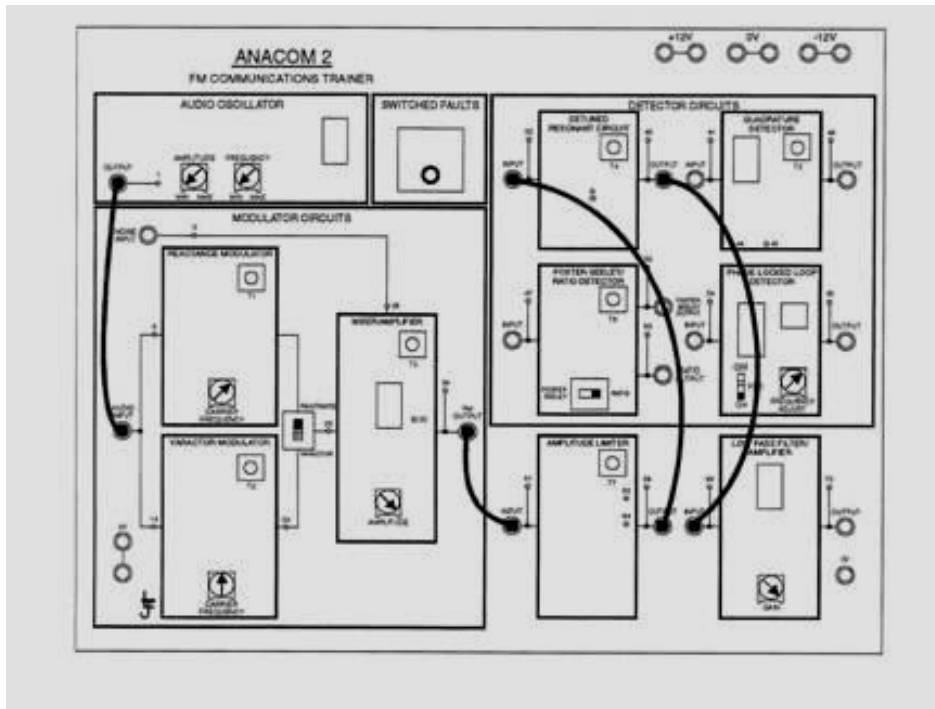

Figure 19: the Connection of Amplitude Limiter
18. Connect the Amplitude Limiter block between the Mixer/Amplifier and the Detuned Resonant Circuit Detector blocks as shown in Figure 19 below.